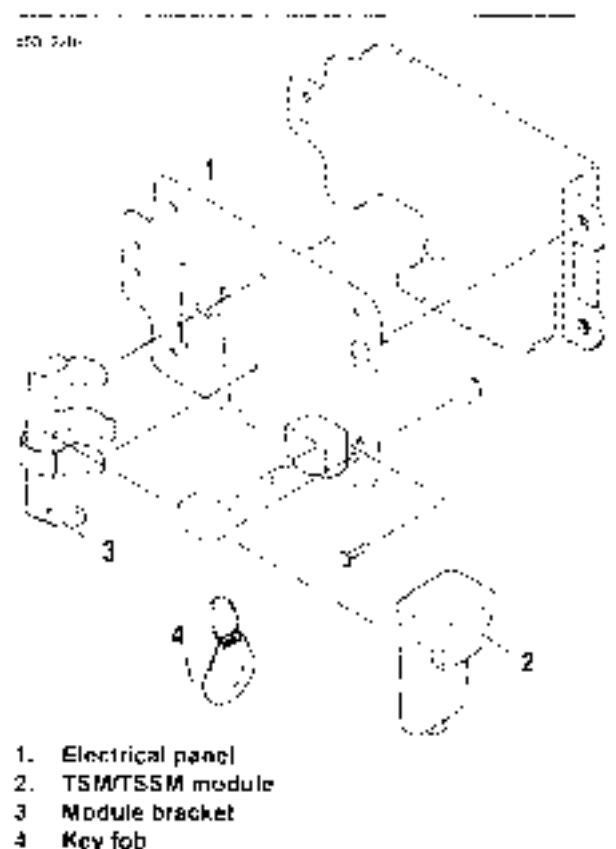

Figure 8-44. Turn Signal Module Assembly
6. See Figure 8-44. Remove TSM/TSSM module (2) from module bracket (3).
1. See Figure 8-44. Install TSM/TSSM module (2) into module bracket (3).